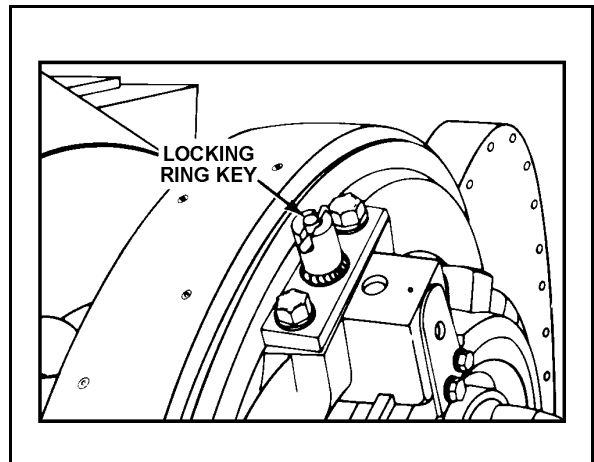

Figure 21-23. Lift Locking Ring Key
- Lift locking ring key on locking ring (Figure 21-23, page 21-20).